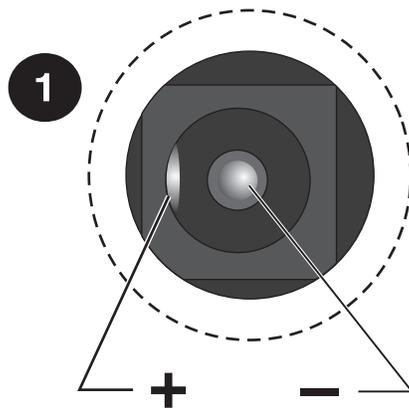

Figure 2. Back Panel
The user should become familiar with the Product and its parts (See Figure 2 and Figure 3).
DC Power Jack - The Product can be used with a dc power source. The dc input jack requires 12 V and 2.6 A. See Figure 2, ❶ for pinout.